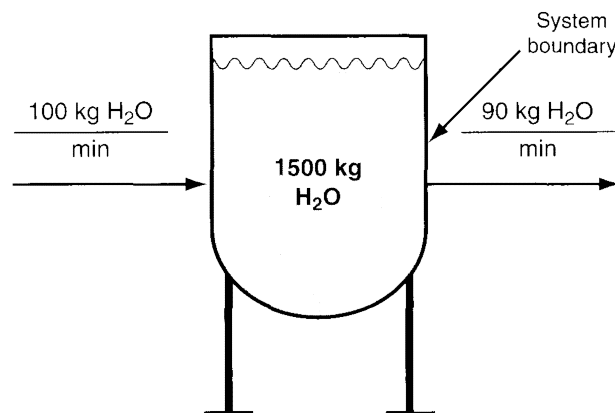

Figure 4 The condition of the open unsteady – state system with accumulation after 50 minutes.
* Figure 4 shows the system after 50 minutes of accumulation (Fifty minutes of accumulation at 10 kg/min amounts to 500 kg of total accumulation).